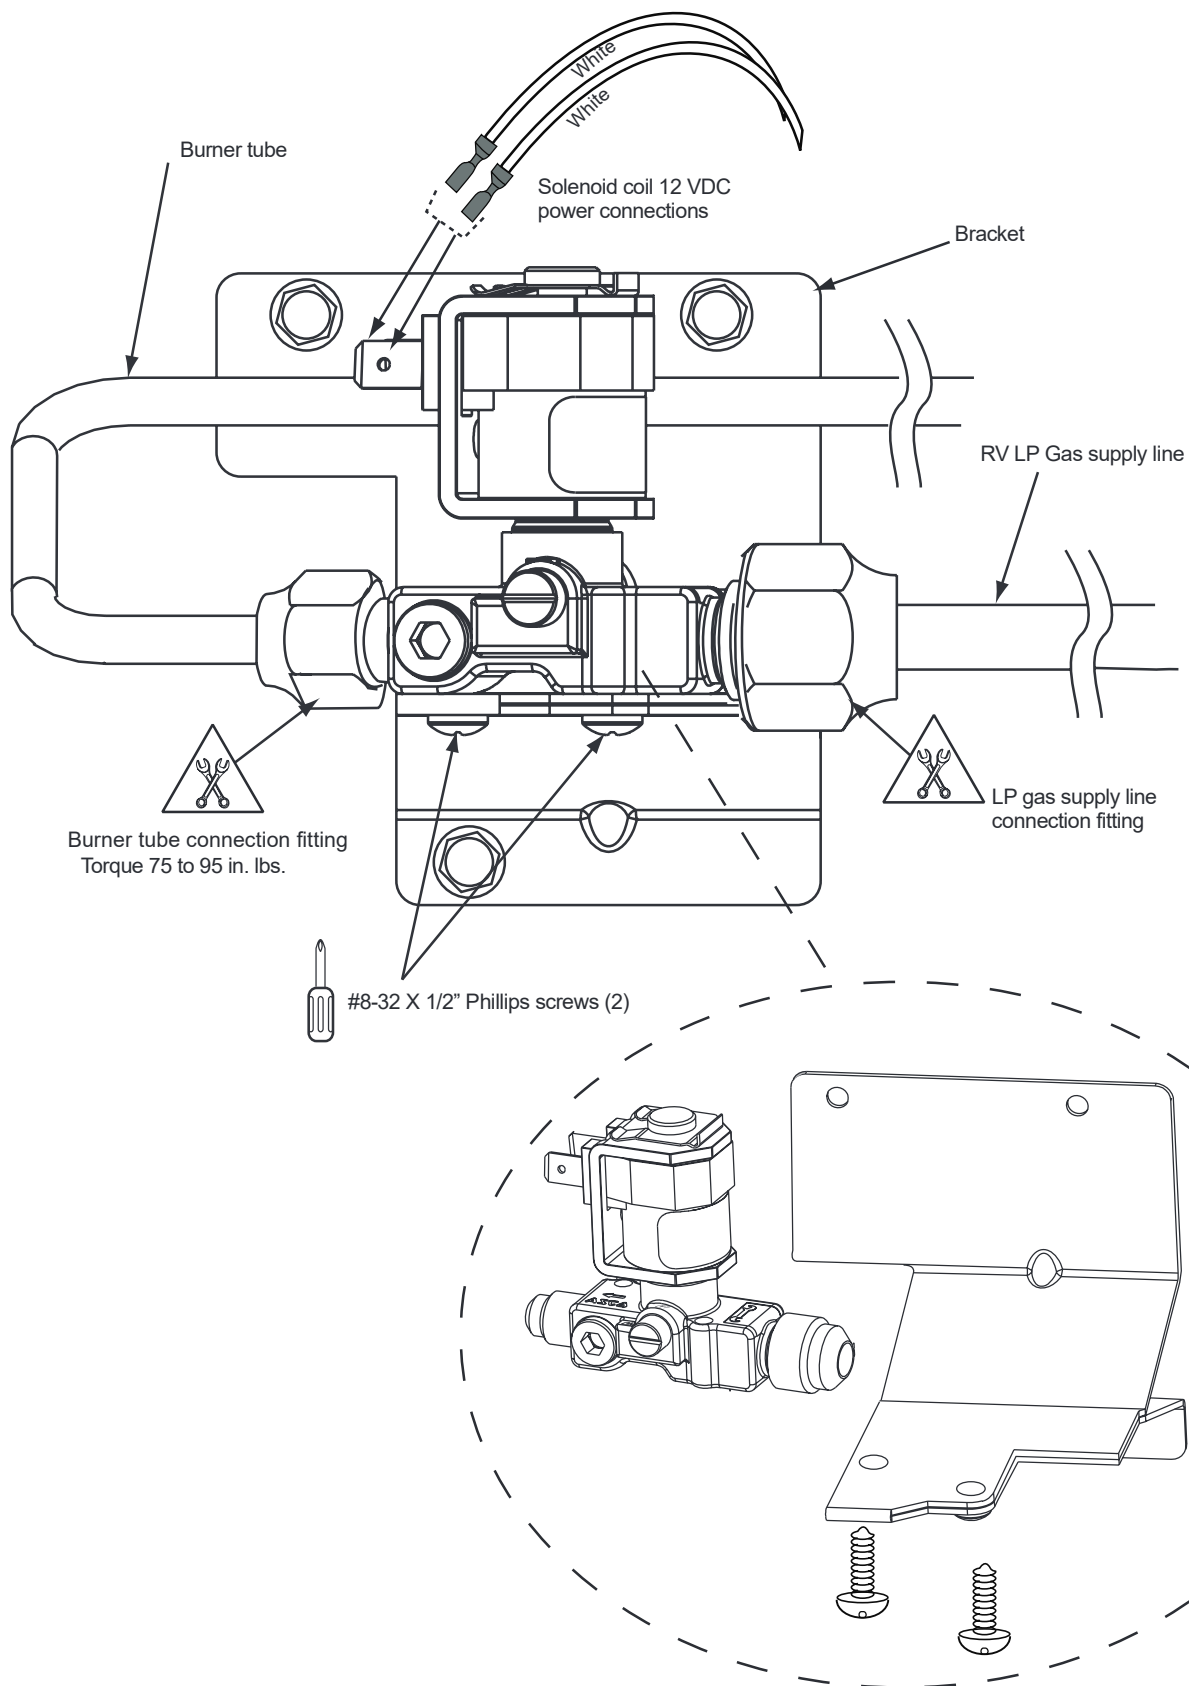

Figure 5-3. —Gas valve replacement.
For steps 6 through 12 refer to Figure 5-3, page 42.
8. Remove two, #8/32 x 3/8" Phillips screws holding the existing gas valve to the bracket, then remove the valve. See Figure 5-3, page 42.